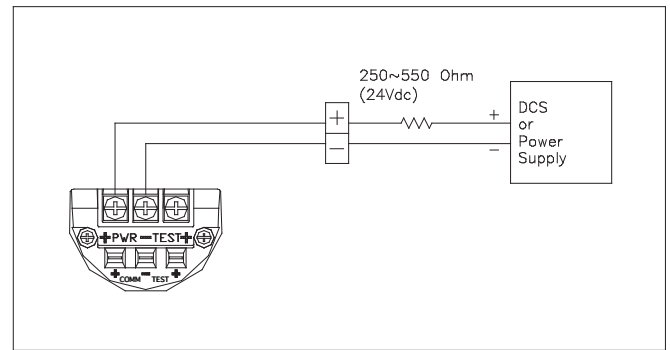

Figure 4-2 Wiring the 3100 Pressure Transmitter
5. You must connect a 250~550 Ohm Resistor in Current Loop (between Power Supply and Transmitter) for HART® Communication. See Figure 4-2.